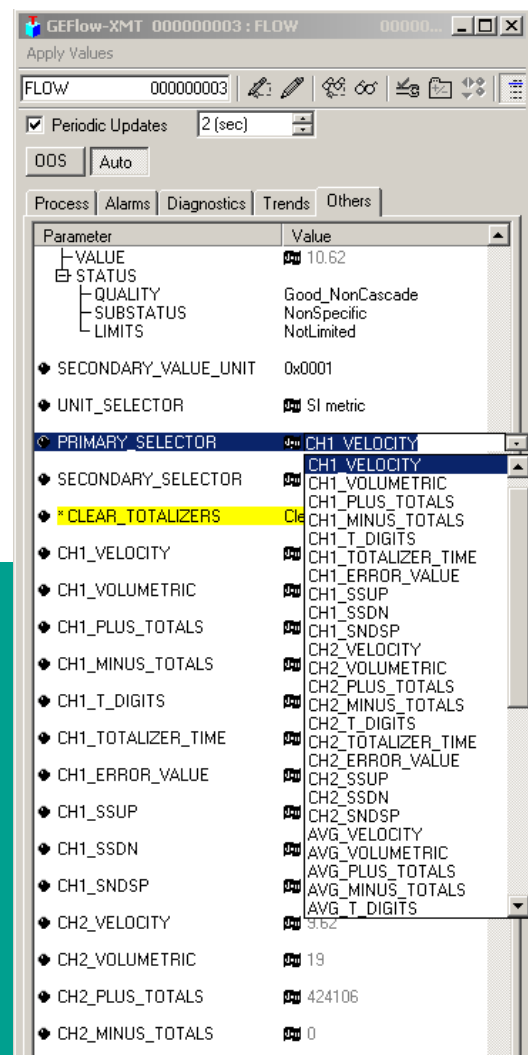

Figure 41: Primary selector drop down list
2. Select the **others** tab and open the drop down list for the PRIMARY\_SELECTOR and SECONDARY\_SELECTOR (see figure 41).
3. Choose the unit from the list (see figure 41).